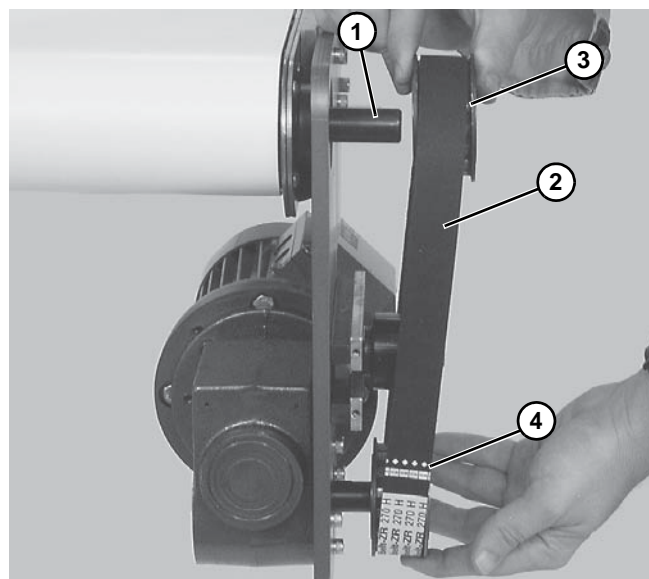

Figure 10
- Install key (**Figure 10, item 1**).
- Wrap timing belt (**Figure 10, item 2**) around driven pulley (**Figure 10, item 3**) and drive pulley (**Figure 10, item 4**). Install driven pulley onto conveyor shaft.